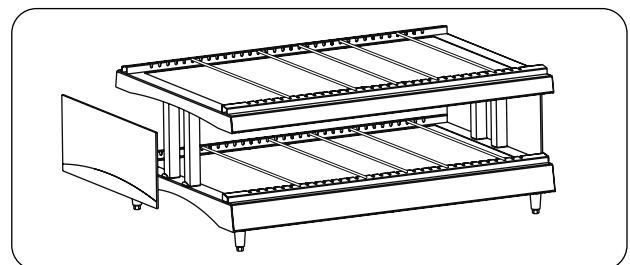

Figure 6. Side Glass Panel Installation
6. Slide each side glass panel into the top channel, then lower the panel into the bottom channel. (See Figure 6.)